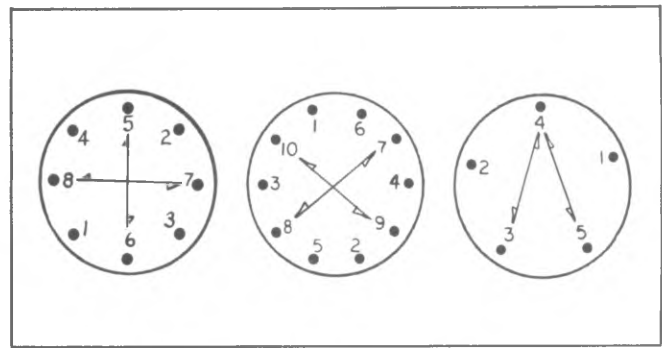

Fig. 3E-7--Wheel Nut Tightening Sequence
3. Torque nuts to specified torque in sequence shown in Fig. 3E-7.